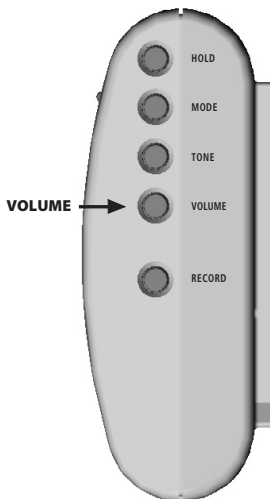

Fig. 6
1. Press the VOLUME button on the right side of the unit (see Fig. 6) to scroll through the volume selections.
2. Each time you press the VOLUME button the selection changes and a two (2) second sample of the volume is played.